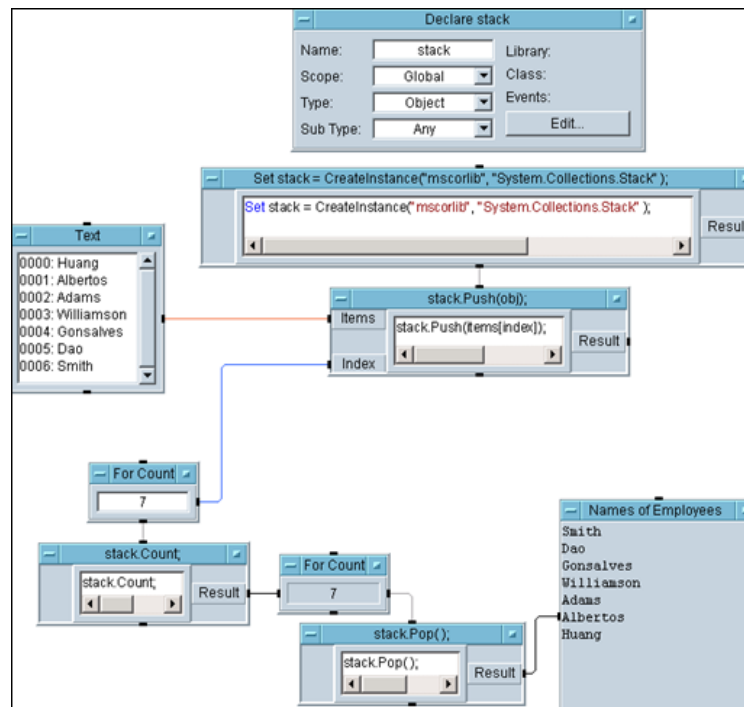

Figure 4-13 Names and size of Text object modified
- 7** Change the content of the Text object; our choices are shown in Figure 4-13; save this as EXER04.4a.